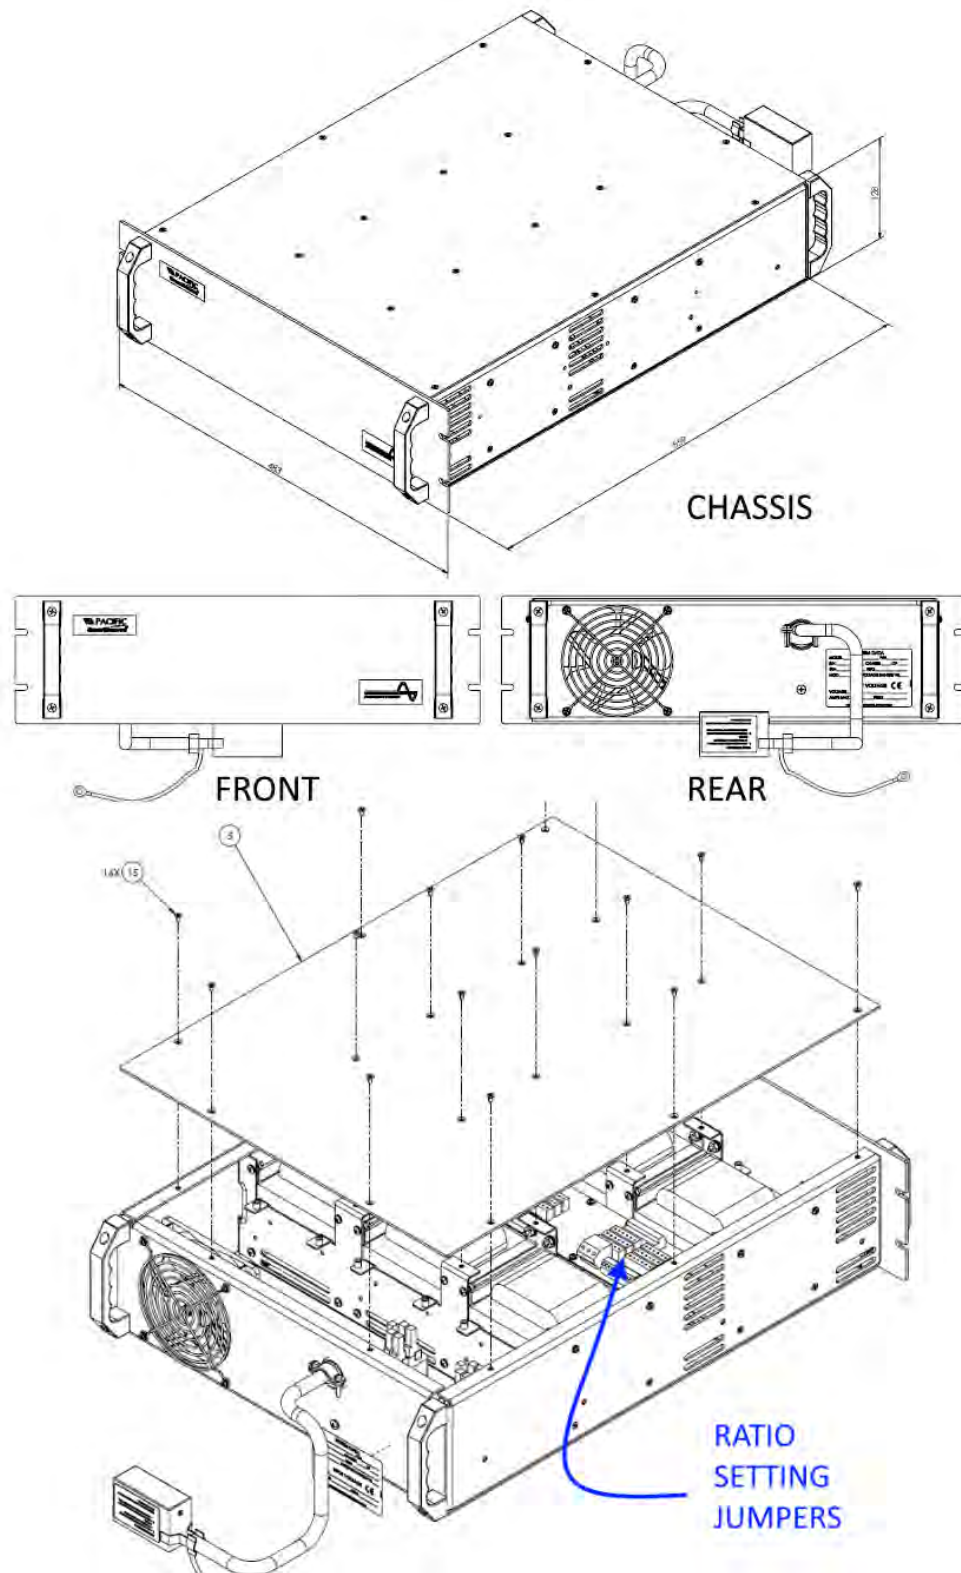
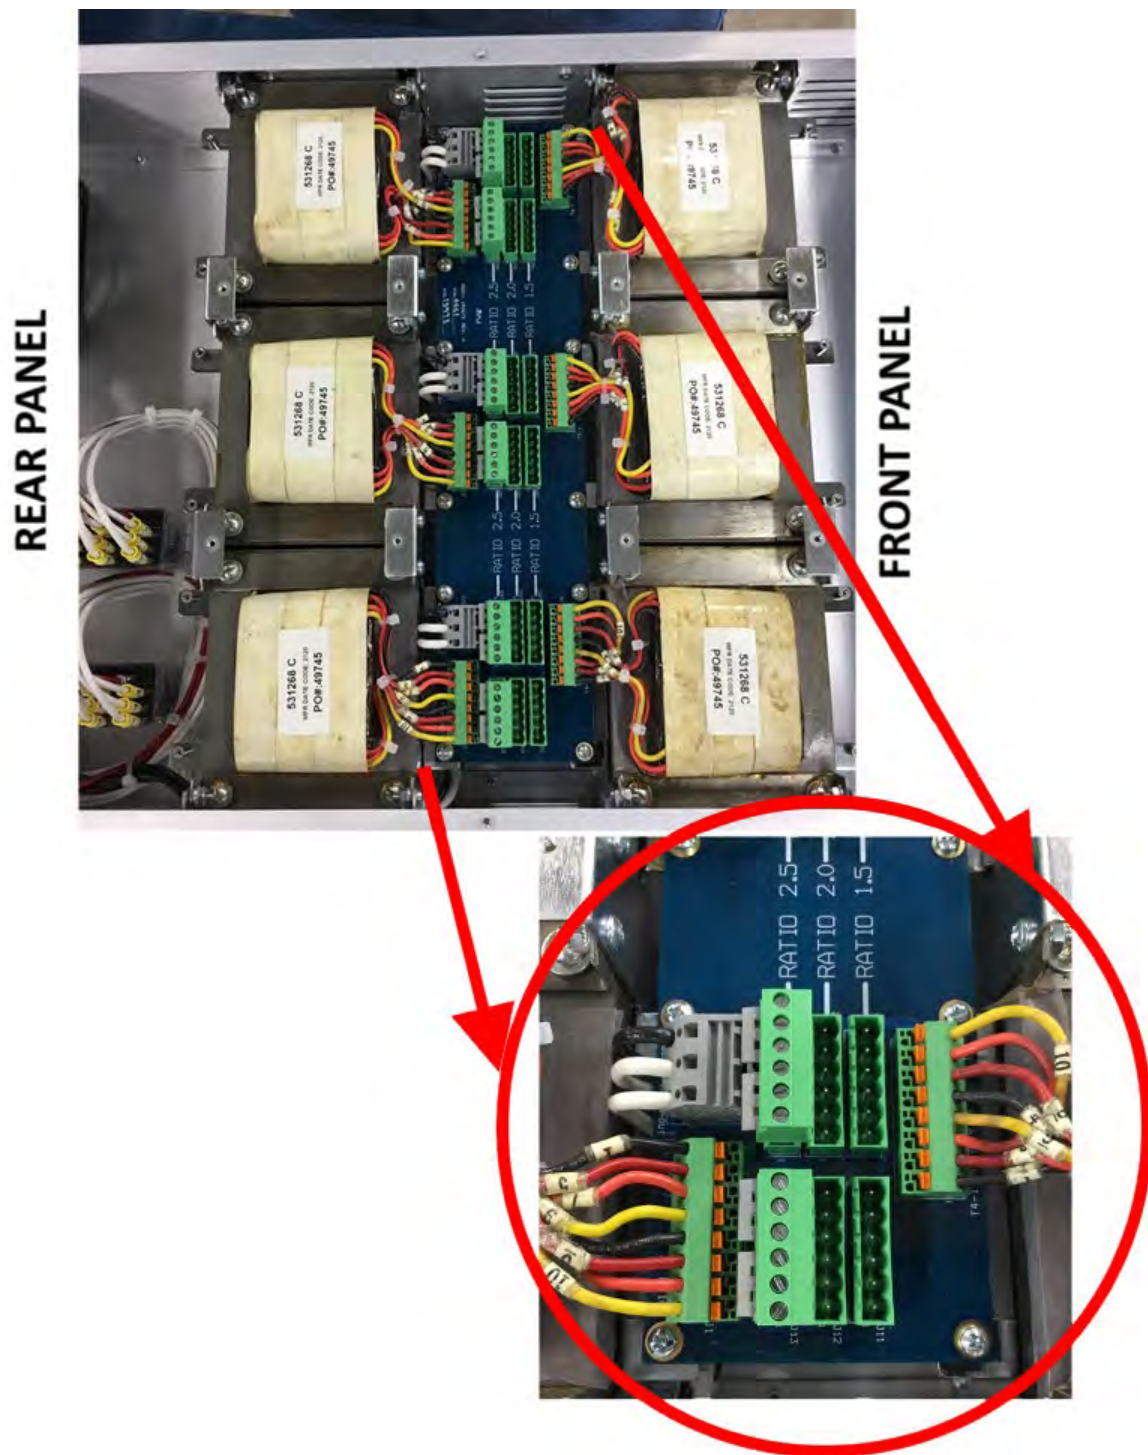

Figure 5-10: External Output Transformer Module Chassis Drawing
Figure 5-11: External Output Transformer Module Configuration Jumpers
For all 5U and 8U rack height LMX models, the magnetics module consists of a separate 3U rack mount chassis that contains the transformers and connects to the power source. The Magnetics Module (Assembly No. 134780) is required for the VR1.5, VR2.0, and VR2.5 output forms. Refer to Figure 5-10 on page 85.
3. Move all jumpers to the desired transformer ratio position. All jumpers must be in the same row. The ratio is shown on the circuit board. Refer to Figure 5-11 on page 86.
The wiring requirements for high range (0-270, 0-300Vac) 220 Vac, one-phase, or split phase direct-coupled loads are shown in Figure 5-10 and Figure 5-11. Split Phase or two-phase operation is defined to be two voltage vectors ( $V_a$  and  $V_b$ ) which are equal in magnitude and separated by  $180^\circ$ .
Some loads require three connections ( $V_a$ -N- $V_b$  or L1-N-L2). This type of load is commonly referred to as "Split Phase". In this case, the "N" terminal of the output terminal block is used in addition to the wiring described above. Refer to Figure 5-10 and Figure 5-11 for connection details.